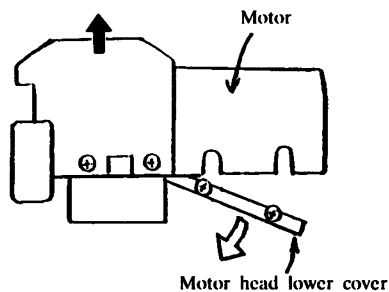

Fig. 3
- (3) Pull the Motor head lower cover under the motor to take it away.
- (4) Pull the cover upward to take it away. (Refer to Fig. 3)